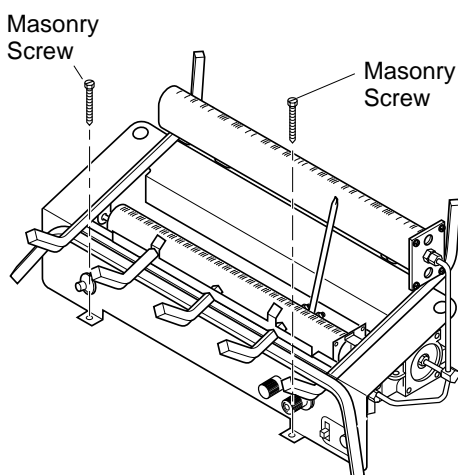

Figure 12 - Attaching Base to Fireplace Floor
3. Mark screw locations through holes in front panel of base (see Figure 12, page 11). If installing in a brick-bottom fireplace, mark screw locations in mortar joint of bricks.